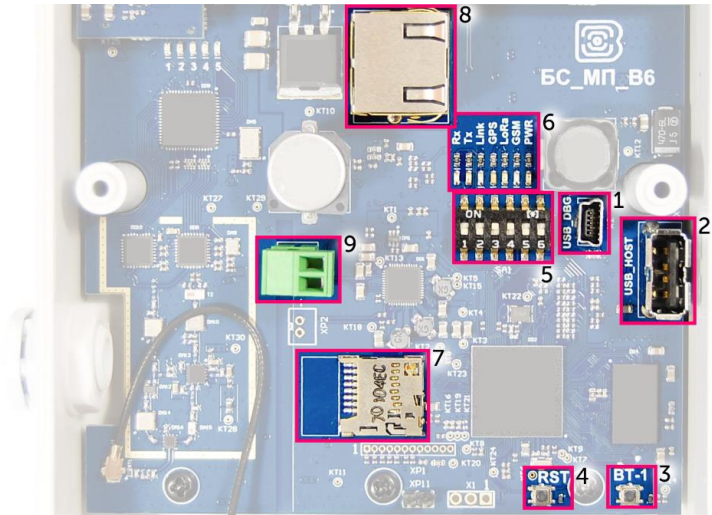
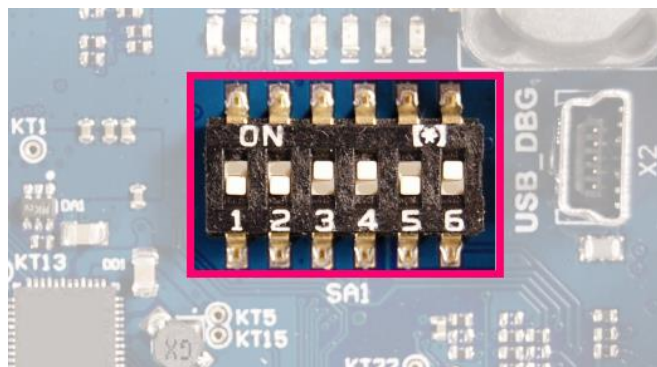

Fig. 3.1. Control and indication instruments, input and output interfaces.
Fig. 3.3. Operating position of DIP-switches
The gateway is connected to the network with 8-core network cable (twisted pair) through connector on the terminal board (fig. 3.1 (8)). Cable shall be crimped in compliance with T568A and T568B standards. Contacts shall be numerated 1-8 right-to-left.
There is an additional power connector on the board (fig. 3.1 (9)). It can be connectable only when power contacts 4, 5 and 7, 8 in the network cable are disabled. Permissible power voltage is 12-48 V. Minimum power is 20 W.
The gateway has a mini-USB-port for connecting to a computer and working via the SSH protocol (Fig. 3.1 (1)), and a USB-host for connecting of external devices via a USB cable (Fig. 3.1 (2)). There is a slot on the board for a SD card (fig. 3.1 (7)).
There are two buttons on the gateway board. One button is spare for further developments (Fig. 3.1 (3)). Push the other button (Fig. 3.1 (4)) for the gateway instantaneous rebooting.
In addition, there are DIP-switches (Fig. 3.1 (5)) on the board used to select the download option of the firmware image: from internal memory, from the SD card or via mini-USB from the computer. The switches are only for service conditions. In operating mode, only switches 3 and 4 shall be enable, see fig. 3.3.
There are several LEDs (fig. 3.1 (6)) on the terminal board; its signals showing in the table below. They indicate operation of particular systems: power (on / off), visibility of GPS satellites, GSM modem (on / off), operation of the LoRa signals processing program (Packet forwarder on/off), Ethernet activity, the data exchange via mini USB port.
In case of a serial port, connect the gateway to a personal computer with a mini-USB connector by a cable. On the board, the required port designating as USB_DBG (Fig. 3.1 (1)). Next, connect to a virtual COM port by installing the driver for MCP2200. **"Ports (COM and LPT)"** menu appears at the device manager.